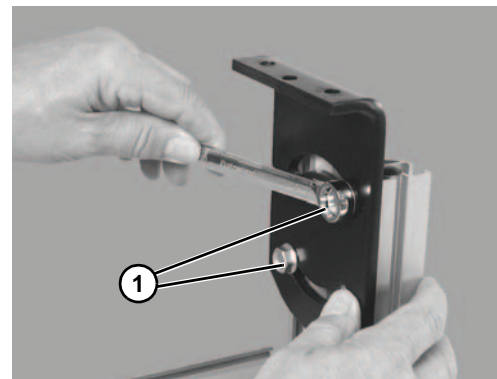

Figure 8
Failure to secure screws (Figure 8, item 1**) may cause conveyor sections to drop down causing severe injury.**
TIGHTEN SCREWS (Figure 8, item 1**) AFTER ADJUSTMENT.**
10. Adjust bracket angle and height. Tighten bracket flange head hex screws (**Figure 8, item 1**). Tighten screws to 150 in-lb (17 N-m).